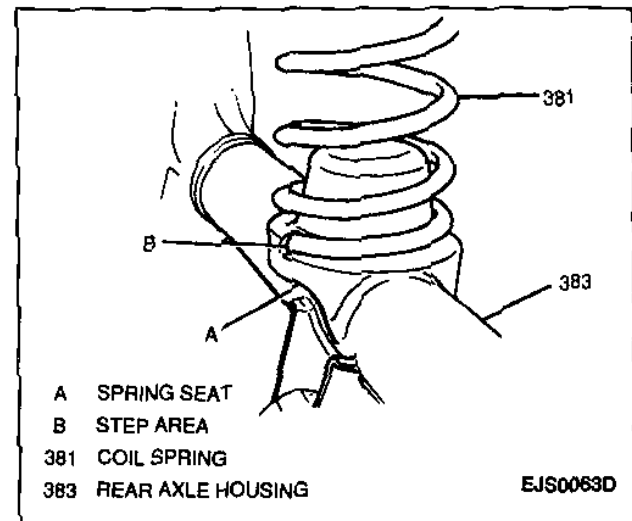

Figure 6—Coil Spring Mounting
1. Coil spring to vehicle, making sure it is properly seated at the axle and at the body (Figure 6).